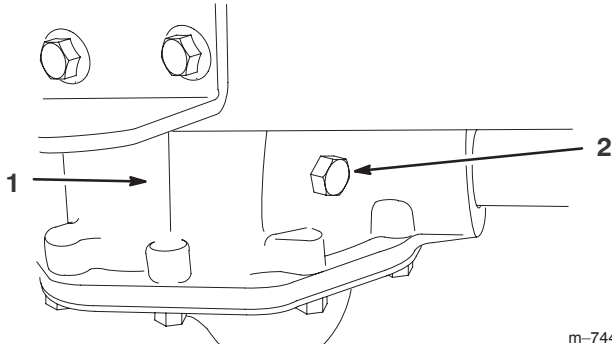

Figure 29
2. Remove the check bolt on the transaxle (Fig. 29).